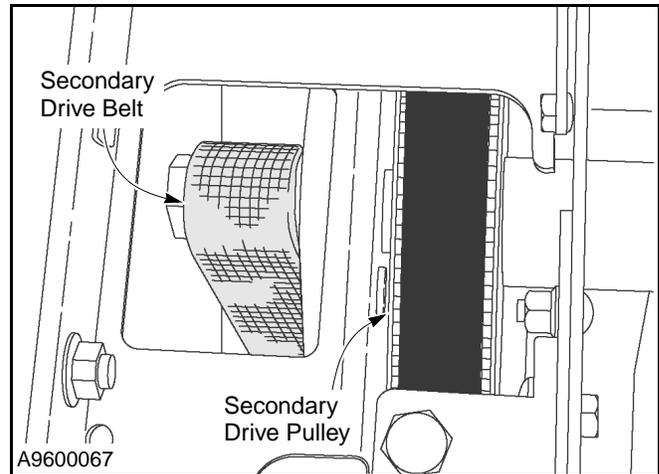

Figure 43
5. Level the door panel by re-indexing the secondary drive belt on the upper drive pulley. To do this, lift and move the drive belt toward the front side of the door panel. (See Figure 43.)